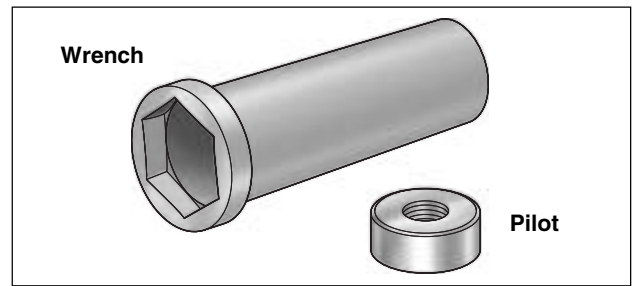

Figure 7-35. Mainshaft Locknut Wrench/Pilot (Part No. HD-94660-37B)
8. Install pilot of MAINSHAFT LOCKNUT WRENCH (Part No. HD-94660-37B) on threaded end of mainshaft. See Figure 7-35. Slide sleeve of locknut wrench over pilot and onto sprocket nut. Tighten sprocket nut to 60 ft-lbs (81 Nm). As the nut is tightened the handle of the sprocket locking tool rises to contact the pivot shaft, thereby preventing sprocket/mainshaft rotation. See Figure 7-36.